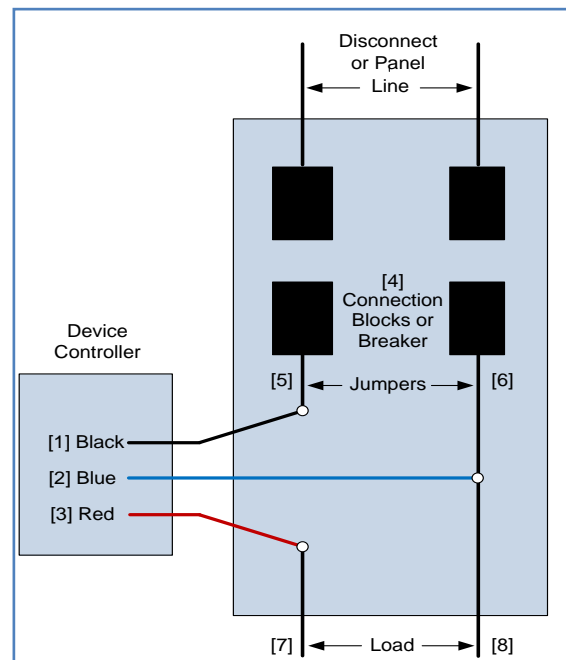

Figure 1 HVAC Wiring Diagram
- c** Connect as shown in Figure 1. Numbers in brackets [] point to related locations in the wiring diagram.